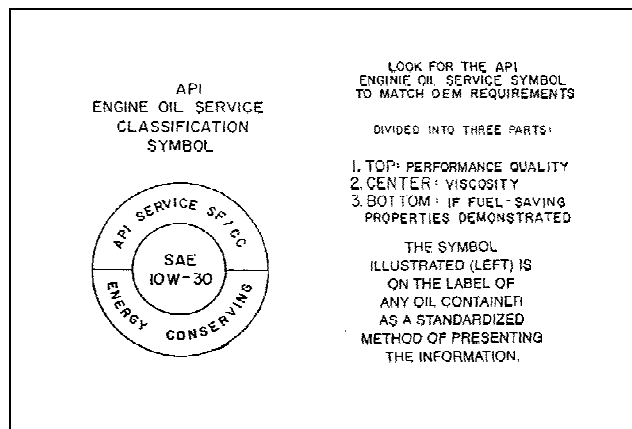

Figure 1. American Petroleum Institute Service Classification Symbol.
- As major filter companies recommend, select the oil based on the API (American Petroleum Institute) Service classification symbol. There are 3 items or parts to look for: (a) Performance quality - at the top of the symbol; (b) Viscosity - at the center of the symbol; and (c) If Fuel-Saving properties demonstrated - at the bottom of the symbol (Figure 1 and Table 2).